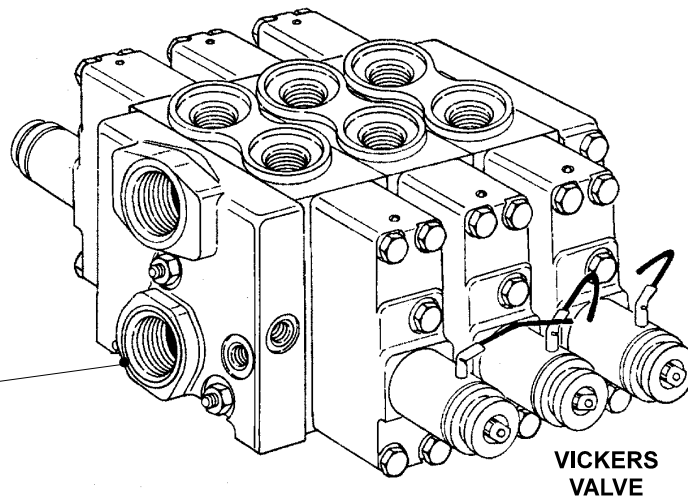

Figure 5-17. Vickers Proportional Valve Pressure Setting - Prior to 1989 with Accessory Valve (Sheet 4 of 4)
2. Vickers Proportional Valve Pressure Setting, Machines Built Prior To 1989 With Accessory Valve are shown in Figure 5-14., Figure 5-15., Figure 5-16., and Figure 5-17.